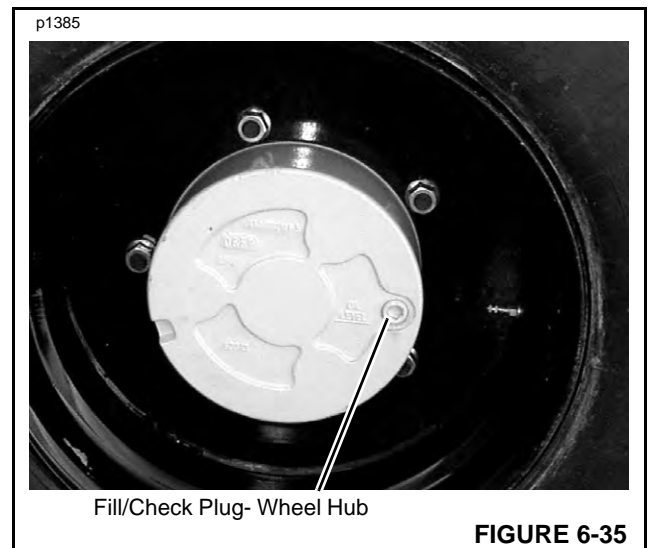

FIGURE 6-35
3. Turn one of the wheel hubs until the fill/check plug is horizontal with the ground (Figure 6-35).